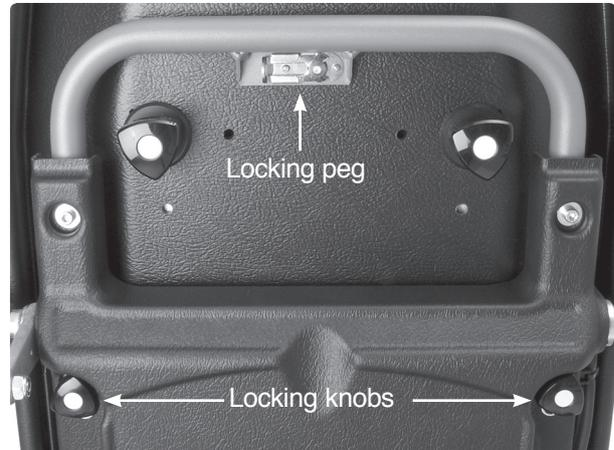

Fig. 19. Release the Locking Peg and Knobs.
- Remove the backrest by loosening the locking peg and the locking knobs on the back of the backrest. Push the upper part of the back support slightly forward to release it from the locking peg and lift the backrest upwards to remove it. See fig. 19.
- Refit the back rest. See Fig. 19.